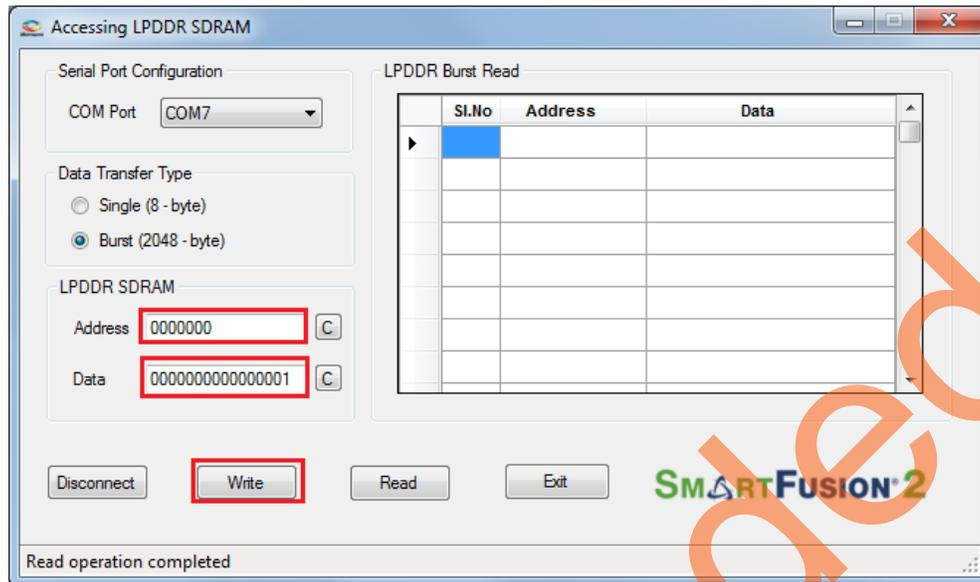

**Figure 22 • Clear the Data Field**
7. Press **C** to clear the data present in the **Data** field. Figure 22 highlights the Clear button, C.